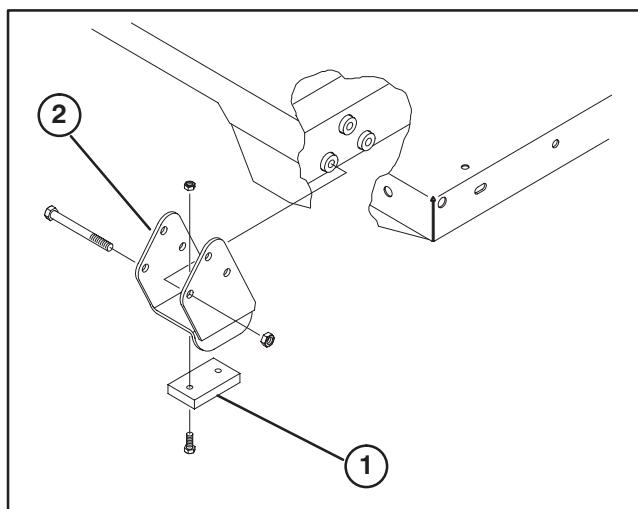

Figure 15
**Note:** Make sure spacer brackets and wear blocks (Fig. 15) are installed or radiator cover may be damaged.